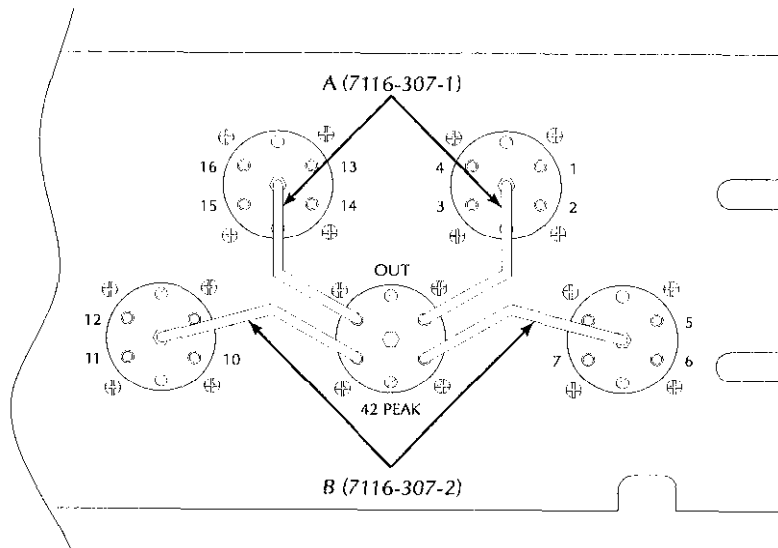

Figure 1-3
| Figure 1-3 | Cable installation | 1-4 |
2. Remove the plastic protective caps from the switch inputs shown in Figure 1-3. Leave the other caps on. Save the removed caps for future use. Connect the cables to the switches as shown in Figure 1-3 and tighten using a $\frac{5}{16}$ inch wrench, to 7-10 in.-lb.